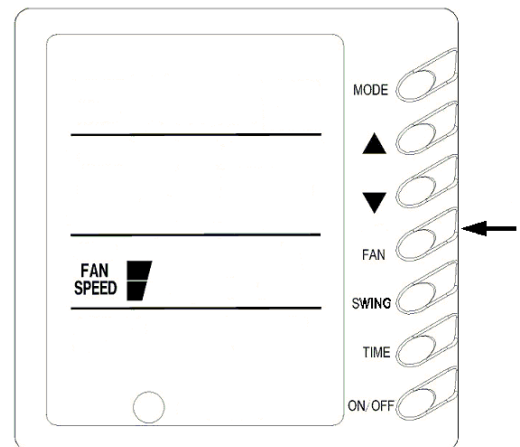

Fig.3
2) Fan Control (Fig.3 is about display region and the